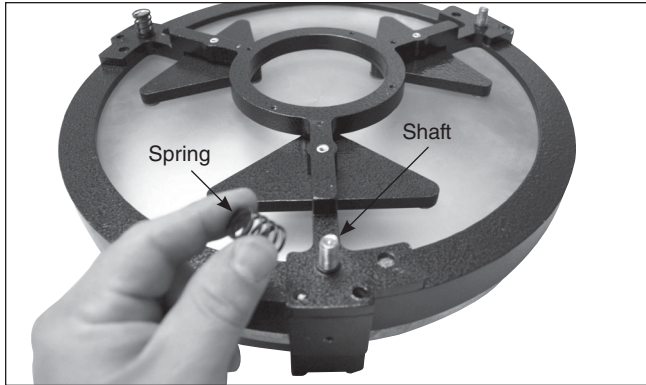
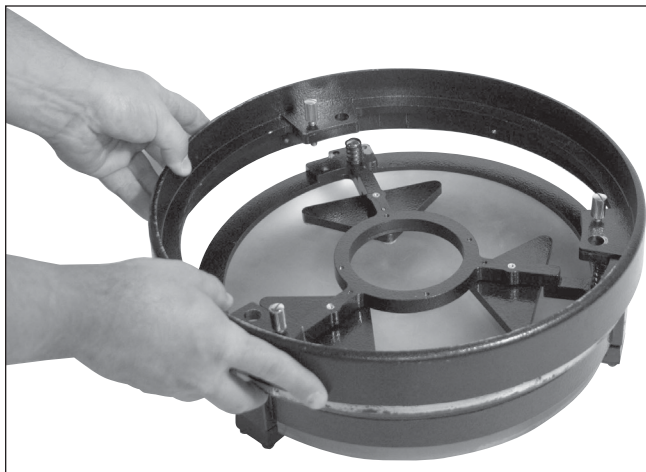

Figure 17. Place the three springs on the exposed threaded shafts of the mirror cell.
Figure 18. Lower the rear end ring onto the mirror cell so that the threaded shafts pass through the end ring, and the end ring rests on the springs.
2. Next, assemble the rear end ring to the mirror cell. Find a clean, flat surface, and turn the mirror cell over so that the mirror is facing downwards. Place the three springs onto the three exposed threaded shafts (**Figure 17**). Lower the end ring onto the mirror cell so the threaded shafts pass through it, and the end ring rests on the springs (**Figure 18**). Add a nylon washer to each collimation knob and thread the collimation knobs through the end ring and onto the threaded shafts (**Figure 19**). Make sure the knobs have at least three full turns of engagement on the shafts. The mirror cell is now ready to be installed onto the lower tube section.